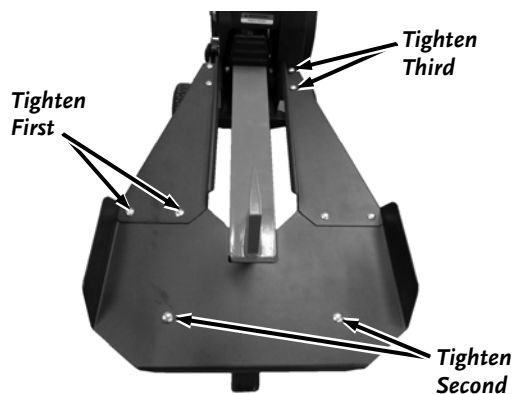

Figure 7
6. First, tighten the four Bolts and Locknuts that secure the Cradle Extensions to the Tray and Support Brackets using a Ratchet and Extension with a 9/16" Socket (**Figure 7**).